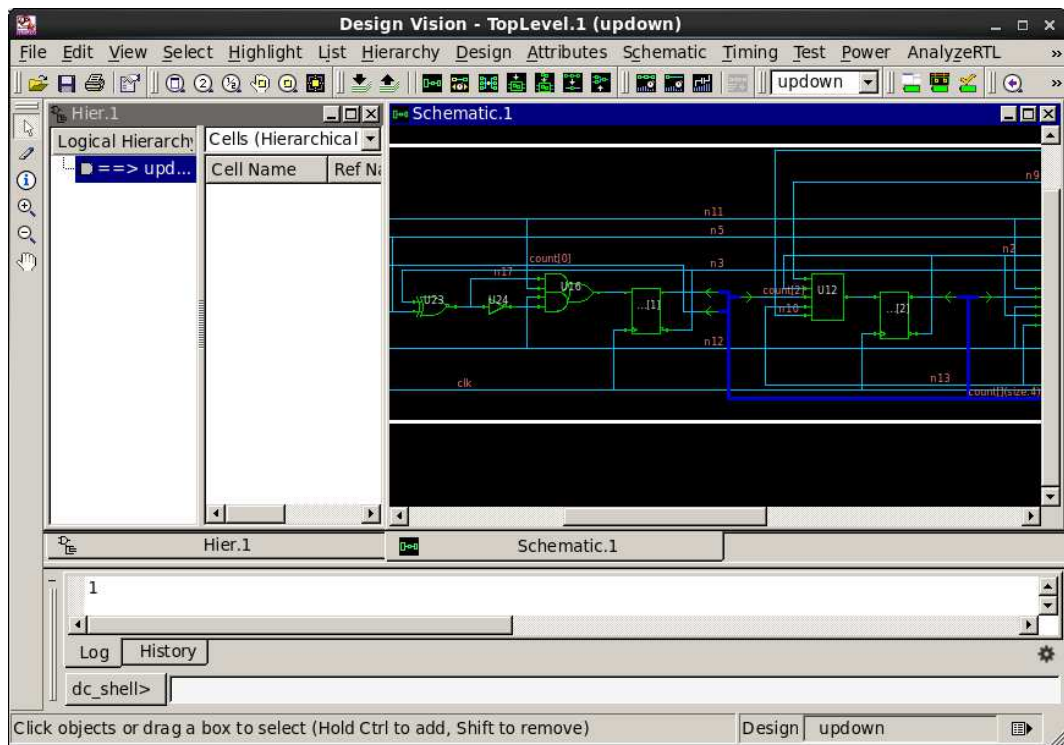

Figure 3: Schematic view of synthesized design
17. The schematic of the synthesized design should now be shown in the GUI. Since we are still viewing the top-level module, descend into the schematic by double-clicking on the top-level module (similar to the controls of DVE). You should see a similar window to the one shown in figure 3. Take note that you can also zoom in and out to get a better view of the schematic.